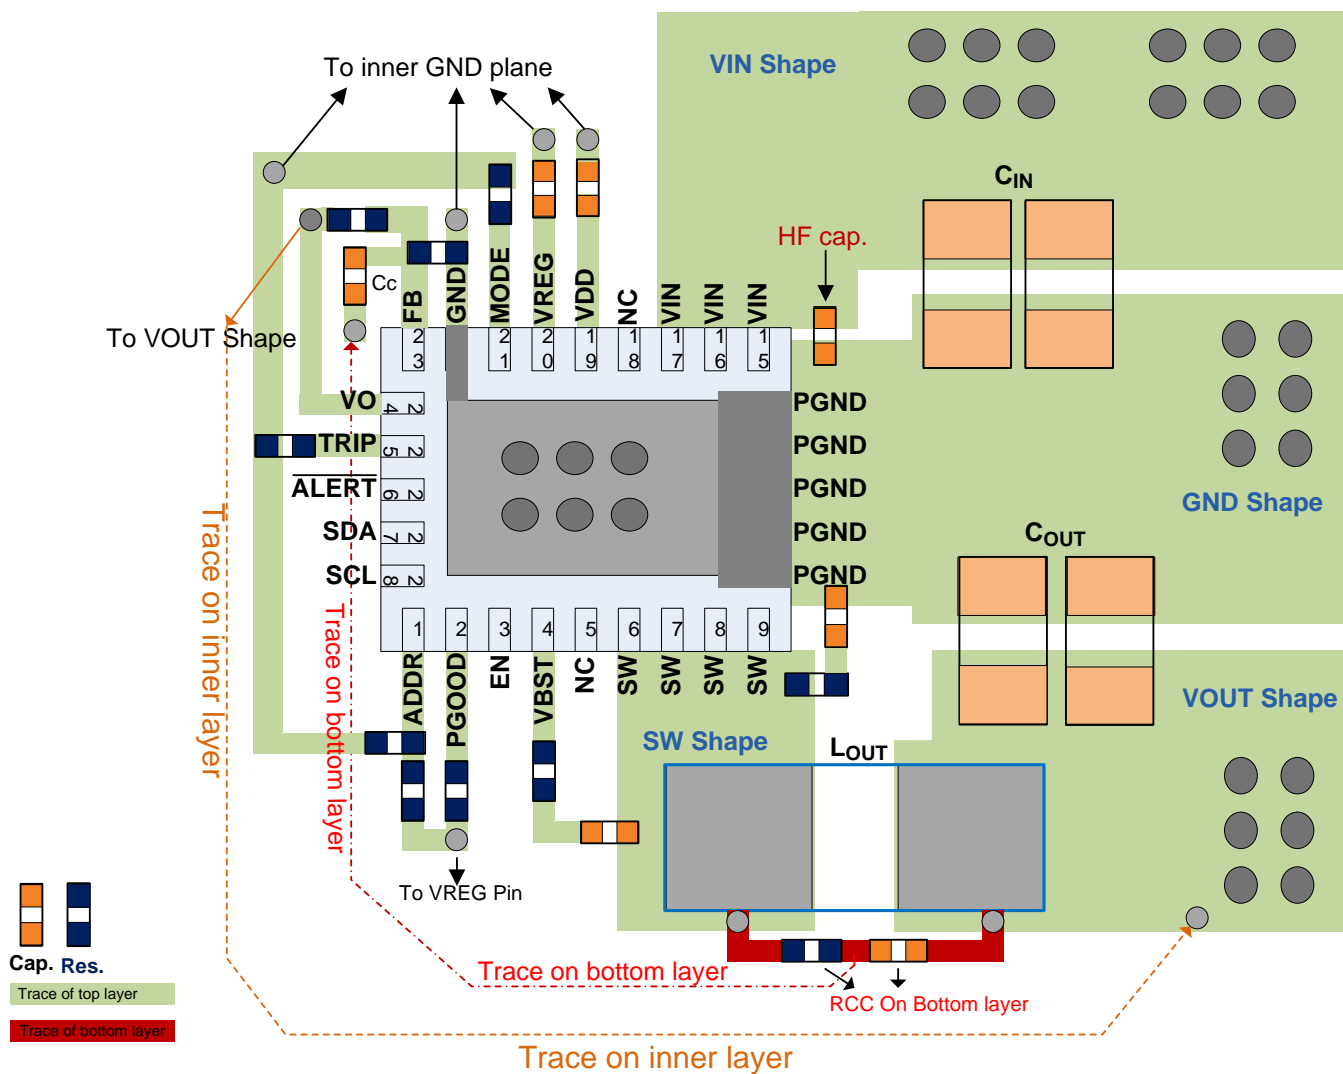

Figure 65. Layout Recommendation
- See Figure 65 for the layout recommendation.